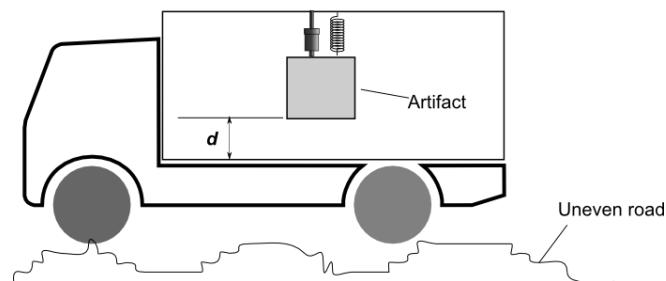

Figure 2/Rajah 2
2. Suppose a truck passes on an uneven road carrying an artifact suspended in the container as illustrated in **Figure 2**, where the equivalent stiffness and damping constants are k and c , respectively.